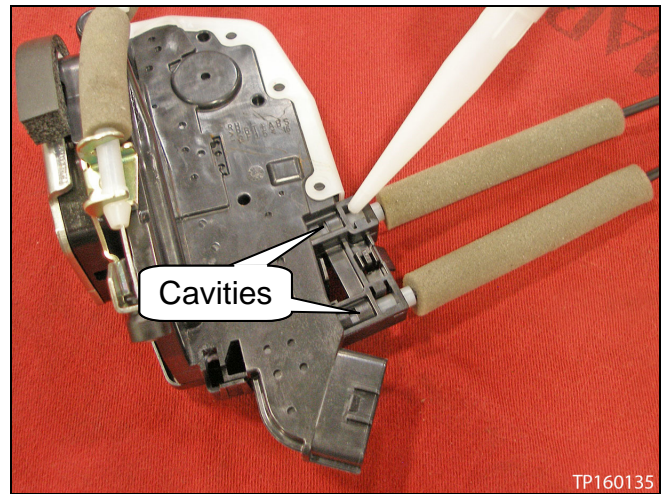

Figure 8
5. On the opposite side of the door lock: Fill in the cavity(ies) with RTV silicone sealant where shown in Figure 8 and 9.